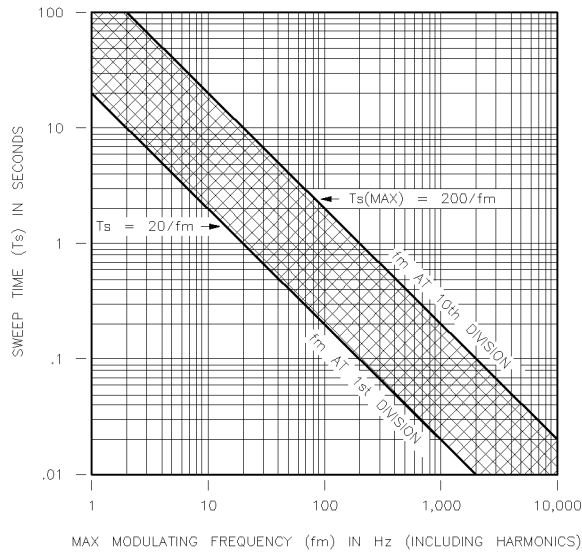

Figure 8-8.
8. Refer to Figure 8-8, which shows maximum modulation frequency (f_m) in Hertz versus sweep time (T_s) in seconds. Set the sweep time less than $T_s(\text{man})$ for the maximum modulation frequency (f_m) including the harmonics of the signal. The upper curve relates the sweep time to the maximum modulation frequency that can be observed (that is, the modulation frequency represented by the right edge of the graticule). The lower curve represents the modulation frequency one division from the left side of the graticule.
Set the sweep time so it falls in the shaded area between the two lines. Refer to Figure 8-8. Set it closer to the bottom line to avoid the effects of aliasing. Note the upper line (marked *fm* AT 10th DIVISION) represents sampling at exactly the Nyquist rate. Some aliasing may be seen when a value for sweep time is close to the upper line. (Frequencies greater than the maximum modulation frequency for a specific sweep time will not be displayed accurately.)